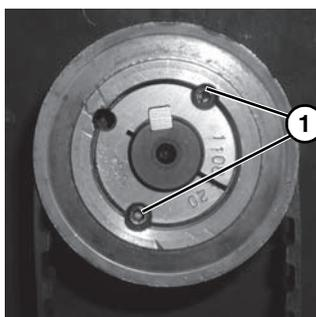
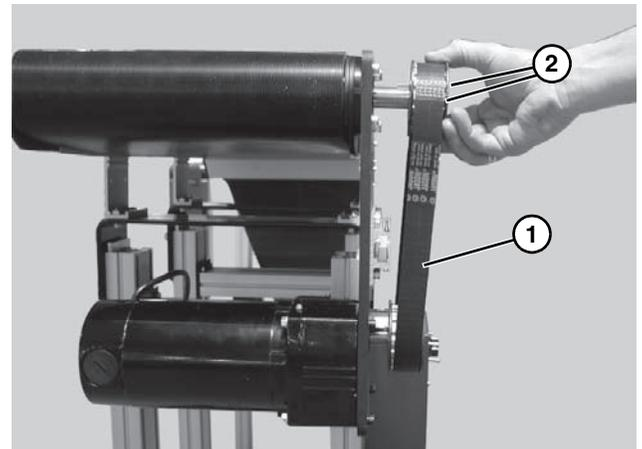

Figure 7
Figure 11
7. Tighten driven pulley taper-lock screws (Figure 7, item 1).
3. Remove timing belt (**Figure 11, item 1**).
If timing belt does not slide over pulley flange, loosen driven pulley taper-lock screws (Figure 7, item 1) & (Figure 11, item 2) and remove pulley with belt (Figure 11, item 1). For re-installation, see steps 5 thru 7 on page 8.